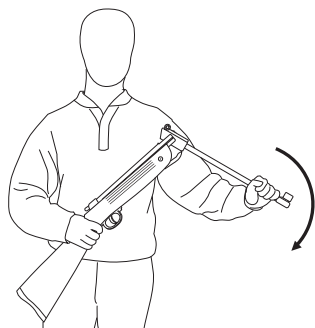

Fig 6
**Cocking the gun:** Hold the pistol grip with one hand and by placing the stock on your hip, break the barrel all the way down with the other hand (Fig. 6 & 7). Here you will notice that the safety button set to 'ON' position automatically even if you left it in 'OFF' position, which is due to automatic safety.